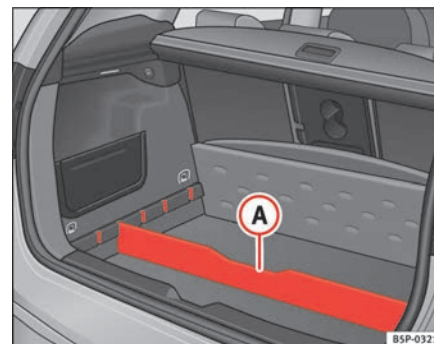

Fig. 107 Variable floor
- Fit the separator **A** ⇒ fig. 107, into the side grooves depending on the size of the objects to be transported. The onboard tool kit and the spare wheel are located underneath the luggage compartment.